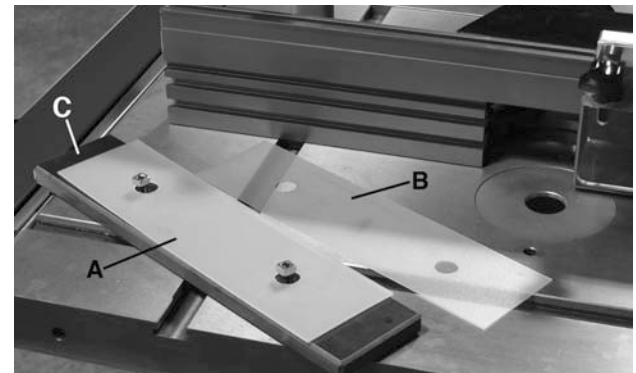

FIGURE 10
Two board shims (A & B) Fig.10 (0.7mm, 1.5mm) are included with this router table. These shims can be placed between the left side outfeed board and the fence to offset the outfeed board for full edge routing or jointing operations.
- 2) Place one or both shims (A & B) Fig.10 on the back of the left side outfeed board (C) and reinstall in the reverse order.